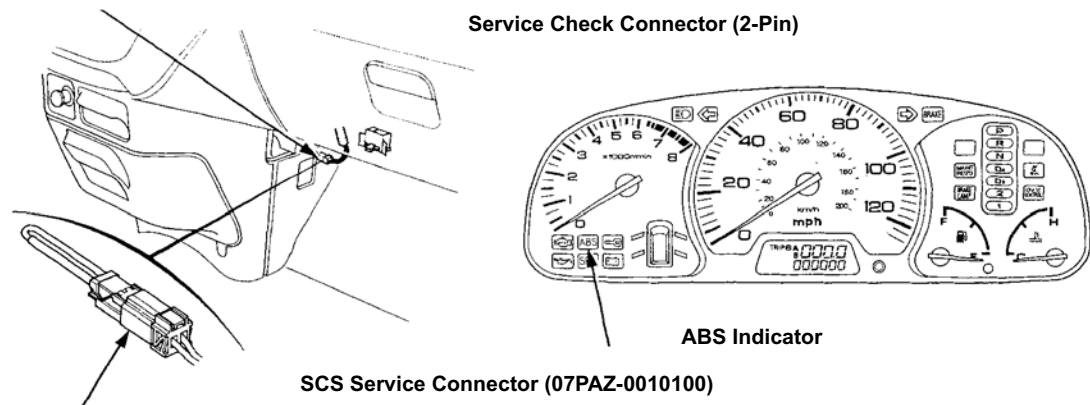

Figure 10-23 1996-1999 Isuzu Oasis ABS service check connector location
The diagnostic connector and warning lamp locations are shown in (Figure 10-23).
- The SCS check connector or jumper wire must be connected to the 2 pin service connector before the ignition switch is turned on. See Figure 10-23 on page 112 for connector location.
1. Connect the SCS service connector to the 2-pin service connector located under the glove box. (See Figure 10-23 on page 112)